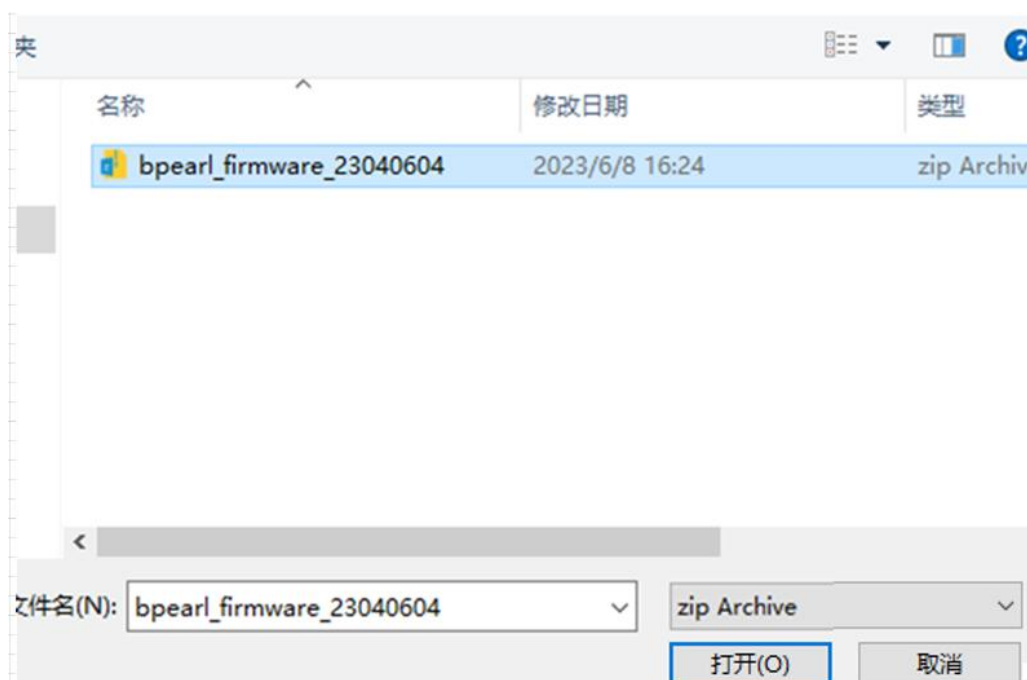

Figure 20 Step 2 - Select Firmware for Upgrade
- 2) Select the folder containing the corresponding firmware for the upgrade, then click "Open" (avoid using Chinese characters in the file path), as shown in Figure 20 .